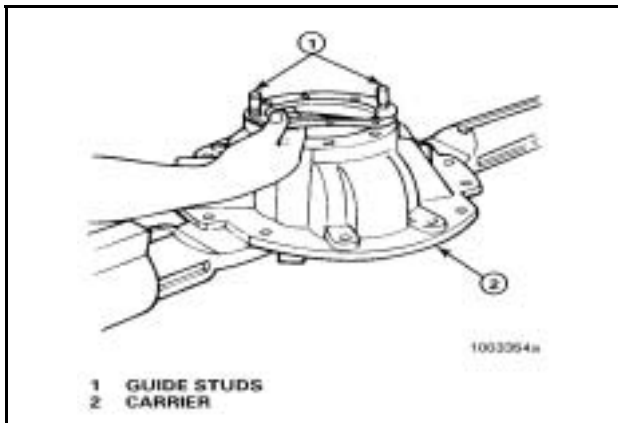

Figure 76
1. Select the correct shim pack between the bearing cage and carrier. **Figure 76.**
3. Align the oil slots in the shims with oil slots in the bearing cage and carrier. The use of guide studs will help align the shims. **Figure 76.**